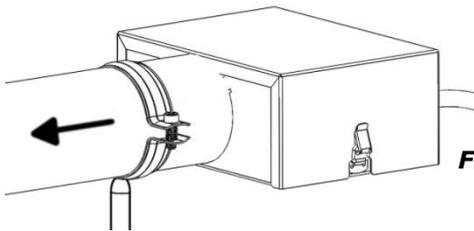

Figure 3
- c. Slide barrel of M14-1 Lite cannon into barrel clamp and align over **CLAMP** decal (Fig. 3).